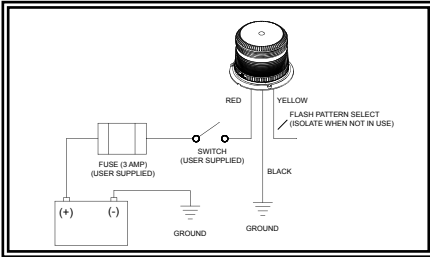

Figure 3
4. Connect the power wires as shown in the wiring section (see Figure 3).
The wiring configuration is shown in Figure 3 below. All wiring should be a minimum of 18AWG. A switch may be used to control the on/off function. The black (negative) wire is connected to the battery ground.